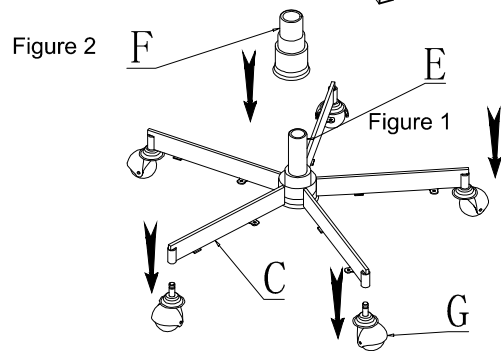

Figure 3
Step 3. Place Caster(G) on Metal Base(C) and secure them as Figure 3
Step 4. Place Wood Cap(D) to Metal Base(C).